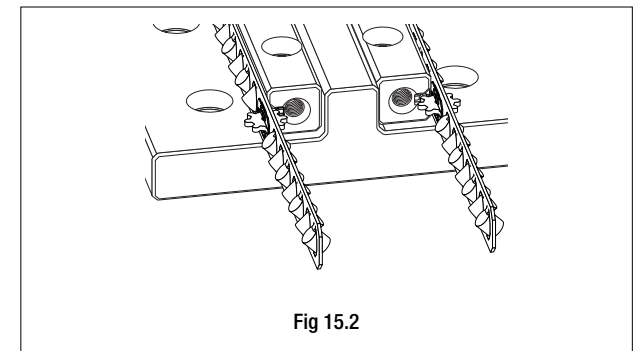

Fig 15.2
- Place the cylindrical rollers with a retainer on the way at bed-side with the center of the pinion gear in the center of the retainer engaged with the end of the rack gear of the way. (See Fig.15.2) Do not bend the retainer.